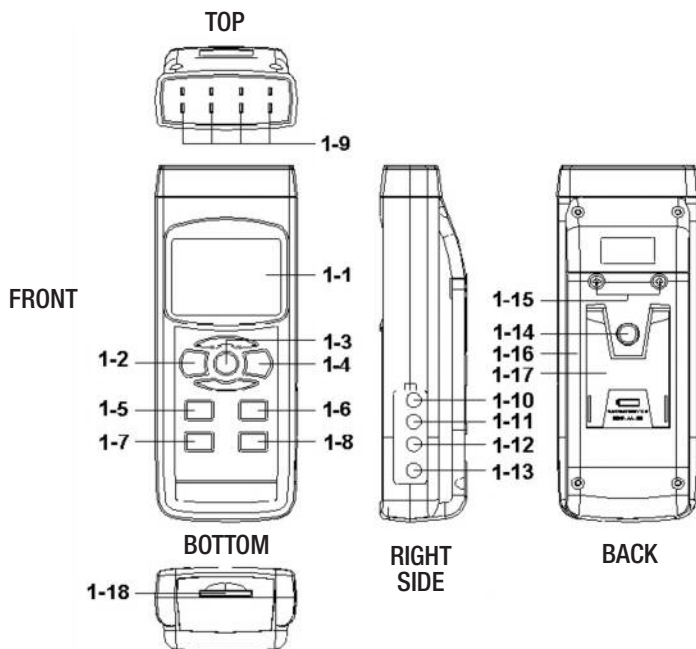

Fig. 1. The DT4947SD's controls and indicators and other physical features
Figure 1 shows all of the controls and indicators on the front, right side, back, top and bottom of the DT4947SD. Familiarize yourself with the positions and functions of these controls, indicators and connectors before moving on to the setup procedure.
- To adjust the offset of a Pt 100 ohm probe**, press the Type ▲ button as many times as necessary until the term “Pt” appears the display. Then plug the Pt probe into the PT1 jack (callout 1-10 of Fig. 1) on the right side of the thermometer.
- To use Type K thermocouples** to measure up to four channels of temperature, plug one to four of the devices (two are included) into the jacks (callout 1-9 of Fig. 1) on the top of the thermometer. Because Type K is the instrument's default thermocouple type, plugging in the accessories will instantly produce display readings. Any of the four channels that are not used will show the overrange reading “- - - - -”.